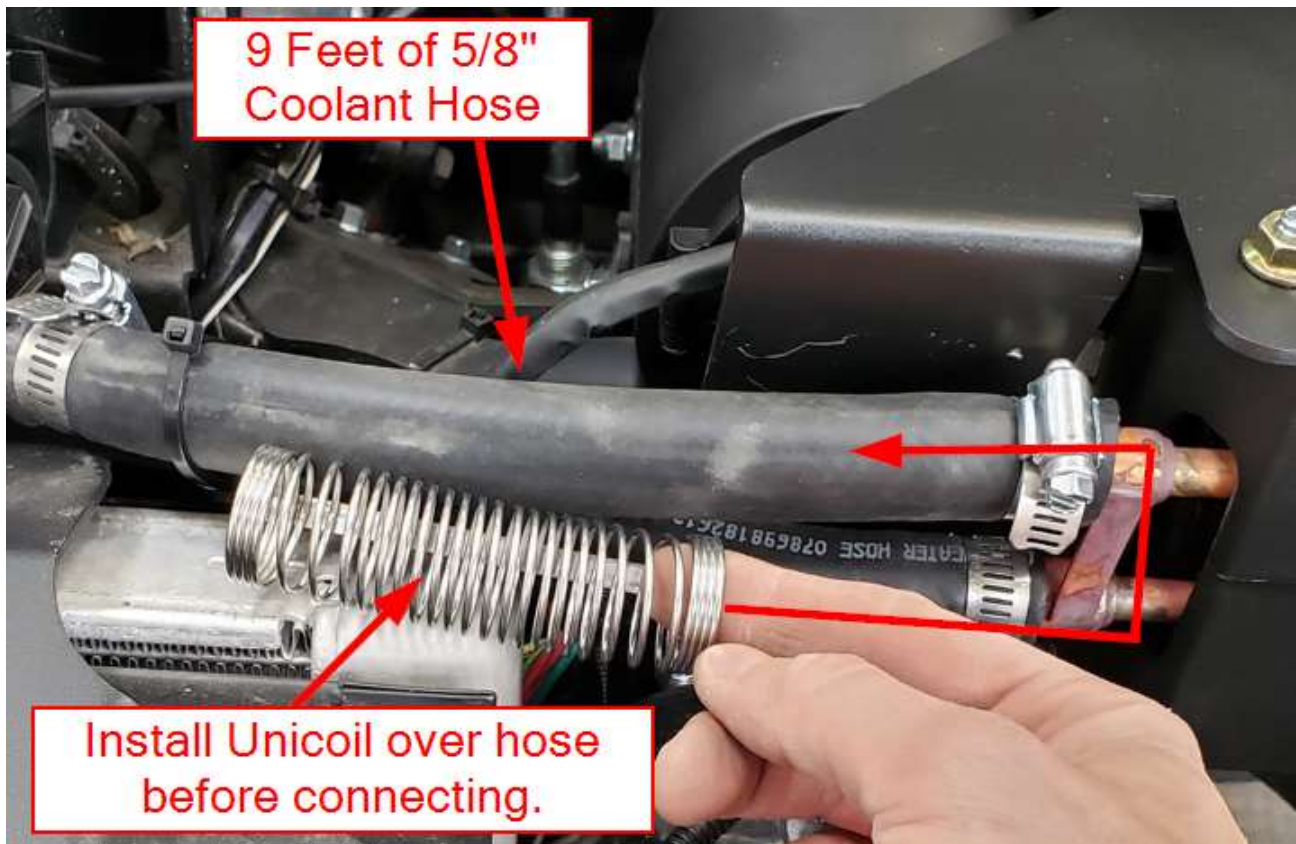

Figure 17
- a. Cut a section of 5/8" Coolant Hose that is 9 feet long. Locate the silver Unicoil shown in Figure 17 and slide it over the end of the 5/8" Coolant Hose. Install the hose on the Top copper port of the heater as shown in Figure 17. Secure the hose using a #10 Hose Clamp (Smaller). Do not use an impact gun on the copper ports, they can collapse with too much force. Position the Unicoil so that the hose cannot rub against the radiator.